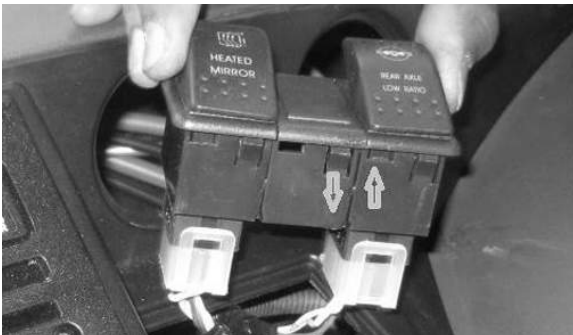

Figure 8-2
3. Pull switches out of their slots and break them apart by pushing one down and the other up (see Figure 8-2).